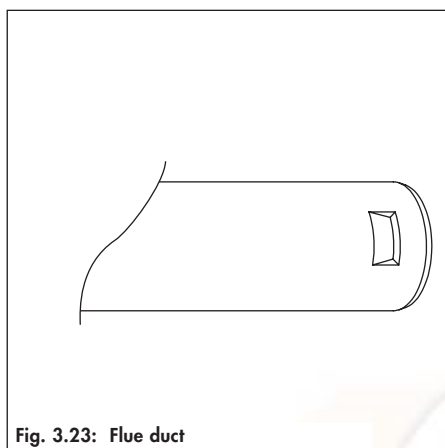

Fig. 3.23: Flue duct
☞ Please note: The catch on the top of the terminal must lock firmly into the notch in the flue duct (fig. 3.23).
- ☞ Please note: The catch on the top of the terminal must lock firmly into the notch in the flue duct (fig. 3.23).